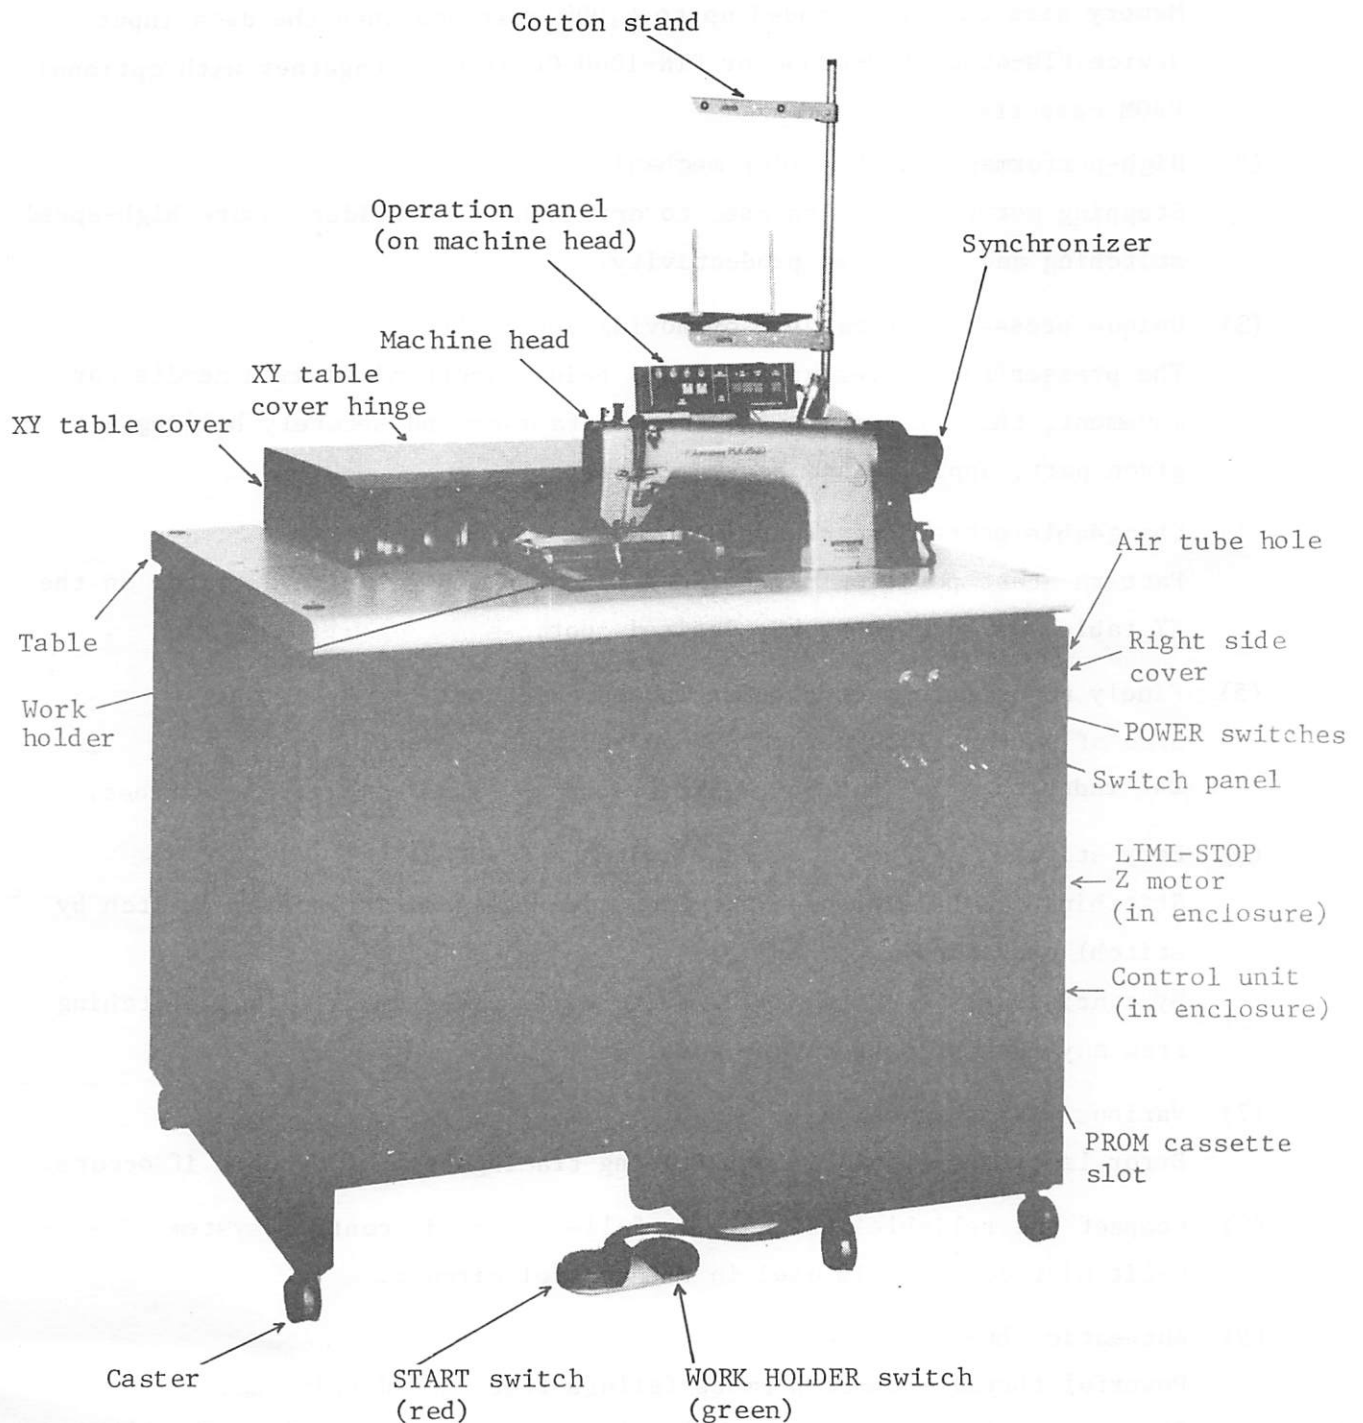

Fig. 1.1
The XY table cover is provided with detachable hinge (Fig. 1.1).
4.6 Loosen the six right side cover mounting screws to remove the right side cover (Fig. 1.1).